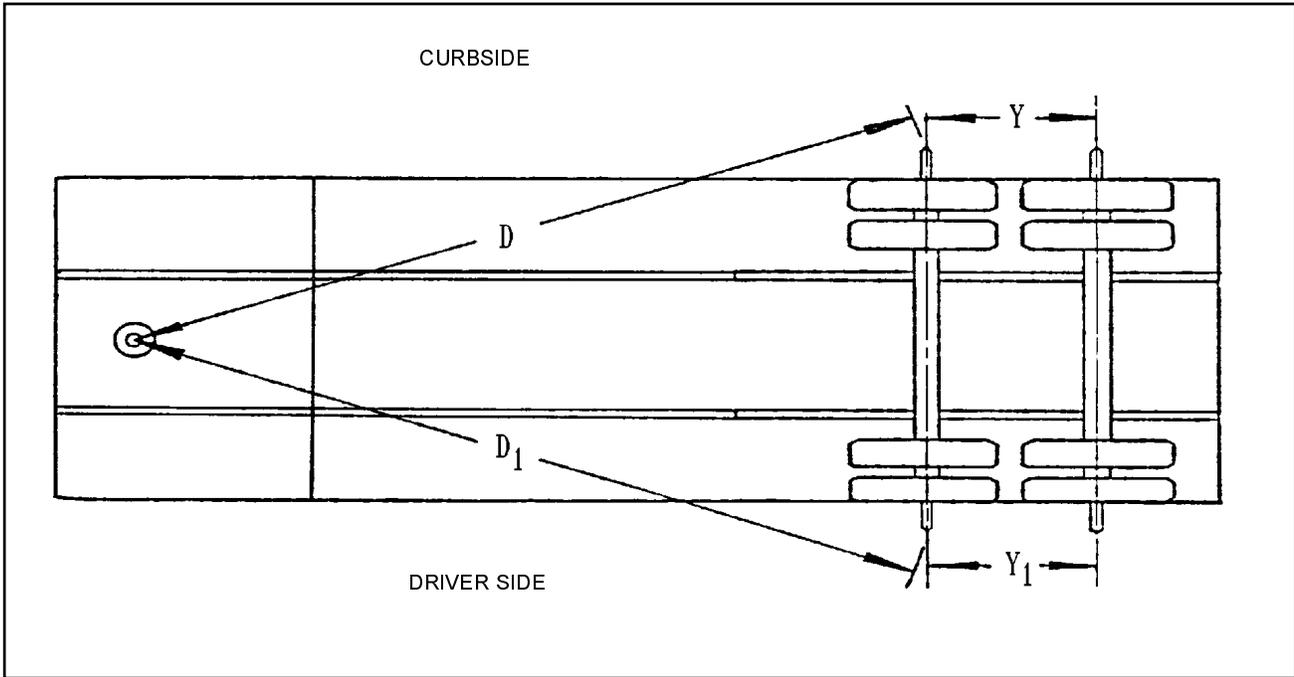

Figure 4-6 Checking Axle Alignment
4. Measure (D) from the plumb bob to the center point on one end of the axle. Record this measurement (**See Figure 4-6**).
5. Measure (D1) to the other end of the axle in the same manner as in **Step 4**. Record this measurement (**See Figure 4-6**).